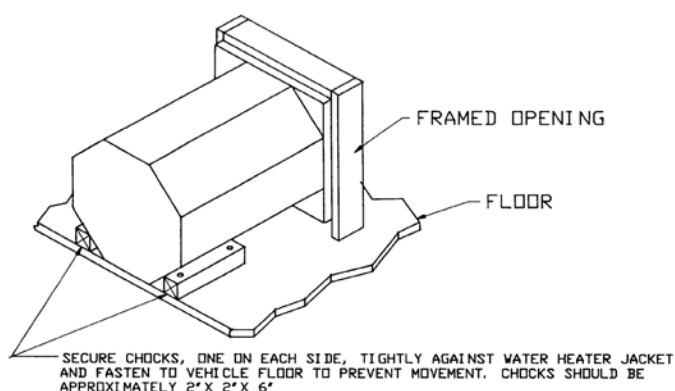

Figure 1A
C. Install chocks, one on each side of water heater, as illustrated in Figure 1A.
G. Insert door frame into control housing and secure with three (3) No. 8-15 x 3 1/2" screws provided.
H. Install chocks, one on each side of water heater, as illustrated in Figure 1A.